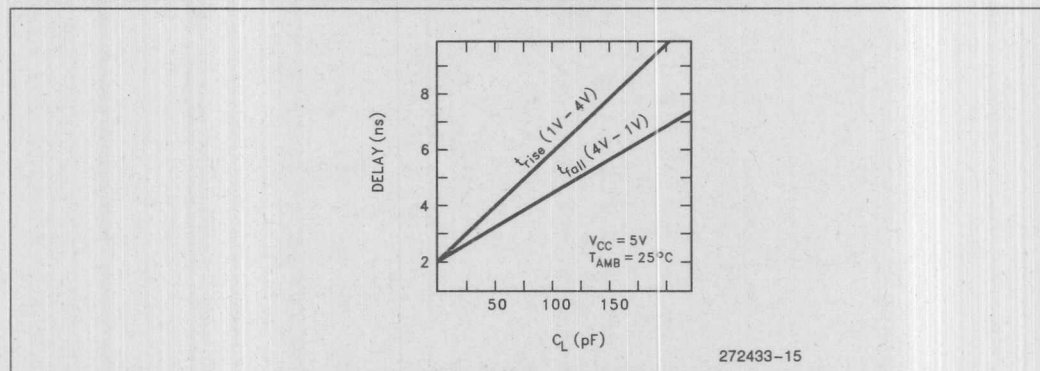

Figure 14
5. Specified for a 50 pF load, see Figure 14 for rise and fall times outside 50 pF.
6. See Figure 14 for rise and fall times.
Figure 14 shows the correct reset sequence when first applying power to the processor. An external clock connected to CLKIN must not exceed the V_{CC} threshold being applied to the processor. This is normally not a problem if the clock driver is supplied with the same V_{CC} that supplies the processor. When attaching a crystal to the device, RESIN must remain active until both V_{CC} and CLKOUT are stable (the length of time is application specific and depends on the startup characteristics of the crystal